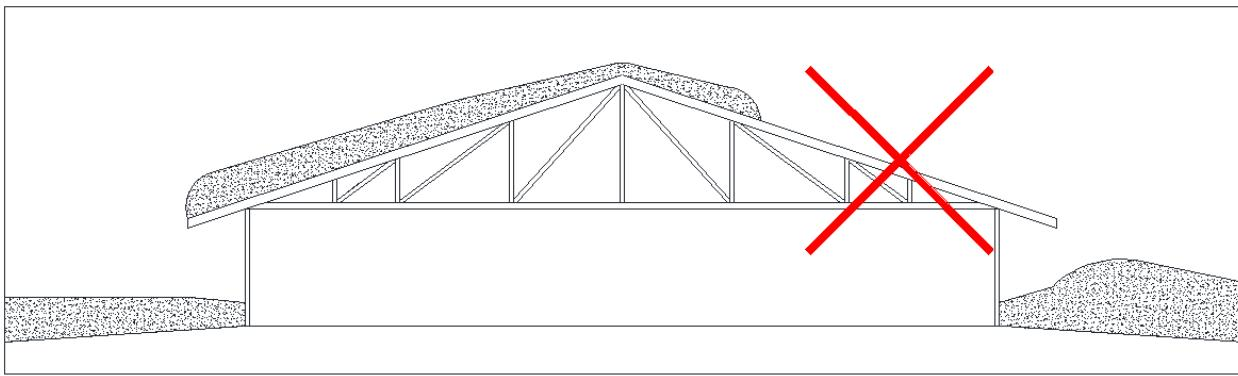

Figure 6. Roof snow load removed in an inappropriate manner – unbalanced unloading.
- Remove snow unequally from a barn roof (Figure 6). Unbalanced loads can cause the unloaded side of a truss to lift, possibly compromising the connection at the post. Rather, work back and forth from side to side as you remove snow, or a crew on each side simultaneously if possible.